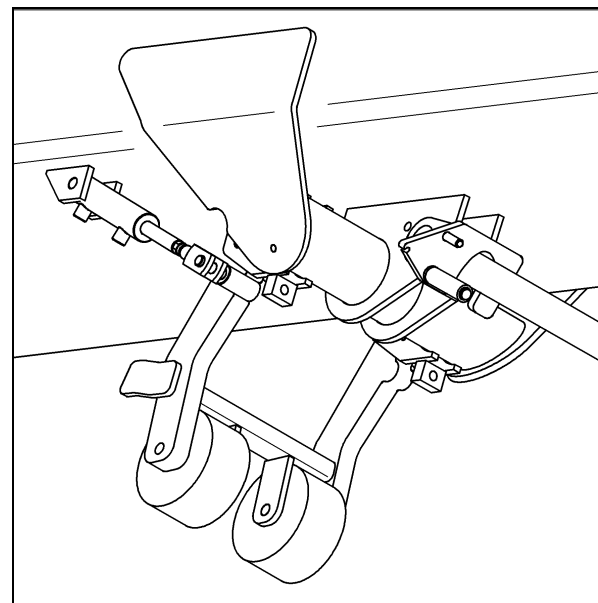

Fig. 42
2. Turn the fan regulator (2) to one of the levels 1 - 3.
The cutter arm (1) consists of the pick-up milling cutter (2) with the swivelling protective device (3), the elevator conveyor (4) with the elevator end (5) and the transport support ((6) and Fig. 42).